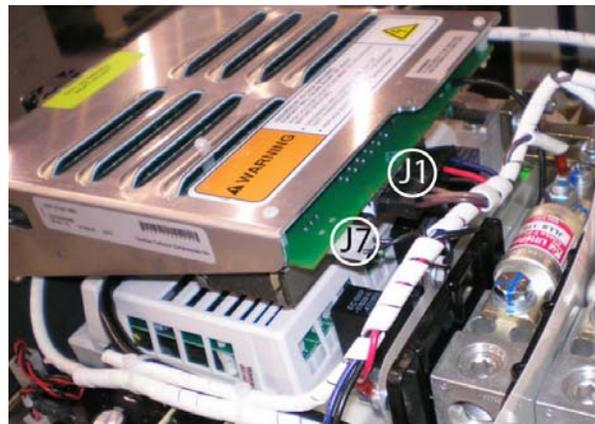

Figure 2 Soft-Start Board
9. Disconnect the J1 and J7 connectors on the Soft-Start Board (see Figure 2).